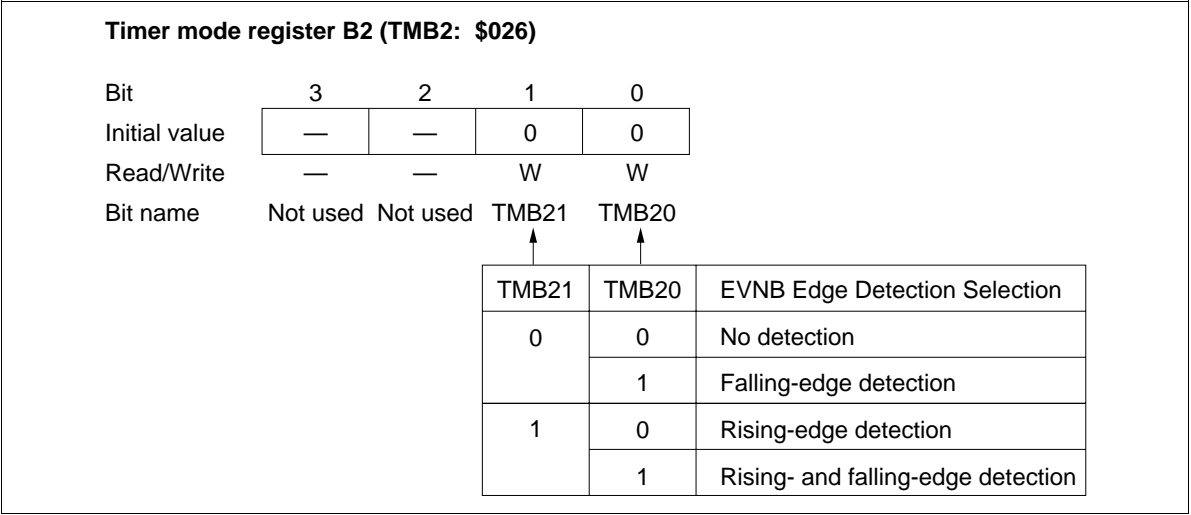

Figure 28 Timer Mode Register B2 (TMB2)
- Timer mode register B2 (TMB2: \$026): Two-bit write-only register that sets the input edge detection of pin EVNB, as shown in figure 28. It is reset to \$0 by an MCU reset.